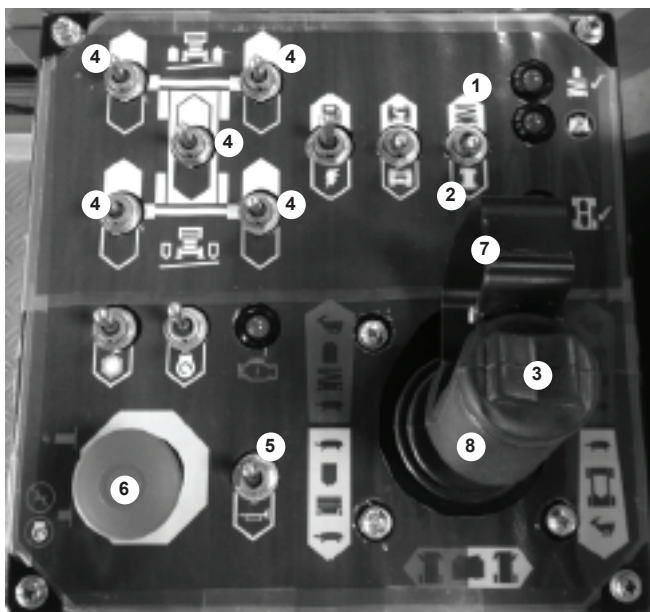

Figure 7.25 - Platform Controls
Check all of the lift (1), drive (2), steer (3) and stabiliser (4) functions from the platform control box to see that they cause the S2255RT / S2755RT to move the way it should (see figure 7.25). For correct operating procedures see the Operation chapter.